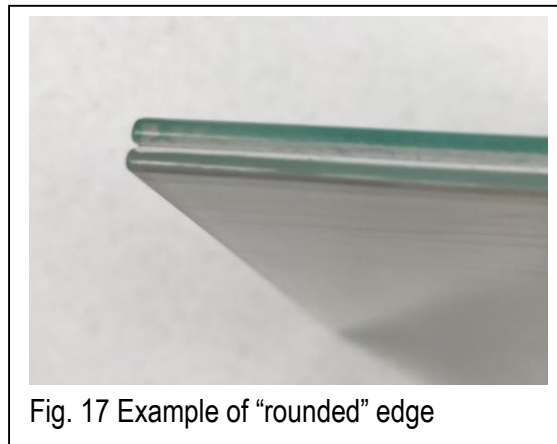

Fig. 17 Example of “rounded” edge
- All the other colors come with the “rounded” edge (fig. 17).